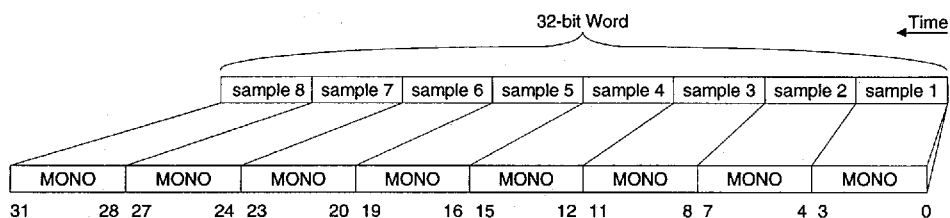

Figure 10. 4-bit Mono, ADPCM Audio Data
signed big endian. See Figures 10 through 13. With the addition of the big endian and ADPCM audio data formats, the CS4231 is compliant with the IMA recommendations for digital audio data formats (and sample frequencies).
In MODE 2, the CS4231 also contains Adaptive Differential Pulse Code Modulation (ADPCM) for improved performance and compression ratios over μ -Law or A-Law. The ADPCM format is compliant with the IMA standard and provides a 4-to-1 compression ratio (i.e. 4 bits are saved for each 16-bit sample captured). For more information on the specifics of the format, contact the IMA at (202) 408-1000. See Figures 10 and 11.